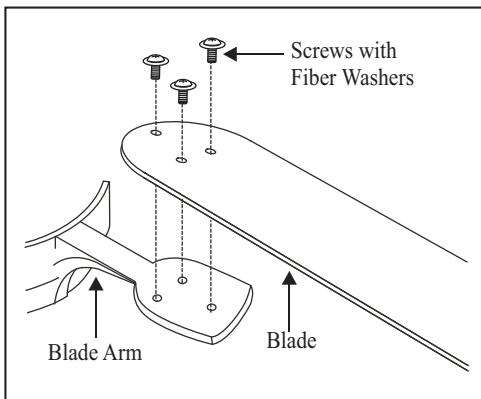

Figure 9
Step 1. Attach blades to blade arms using three screws with fiber washers. (Fig. 9) Start a screw into the blade arm, do not tighten. Repeat for the 2 remaining screws and washers.